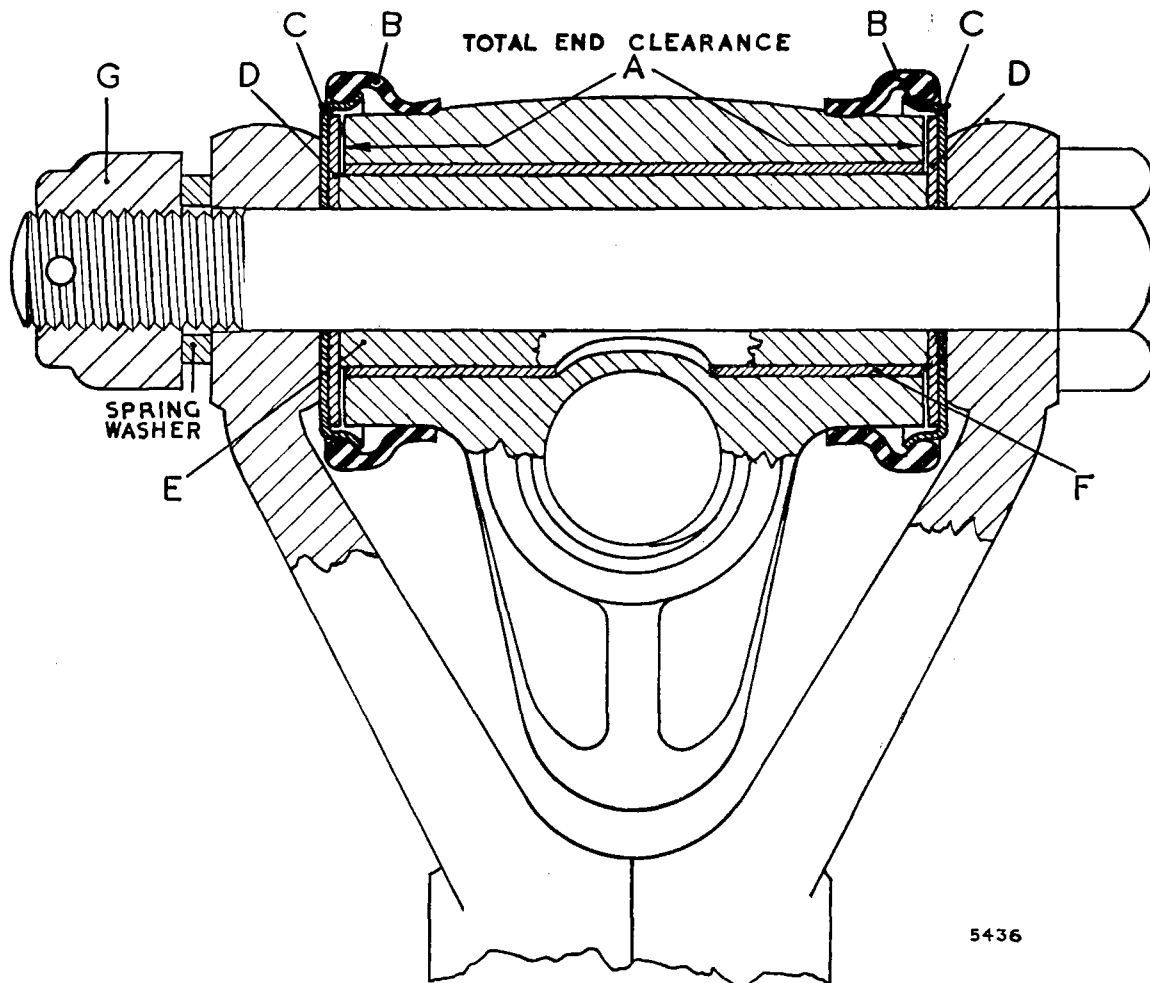

Fig. K.1
NOTE.—When pressing in this bush see that the hole in the bush faces the threaded bore. (See Fig. K.1.)
When the swivel links, distance tubes, and thrust washers are assembled the total end clearance between the link and the thrust washers should be .008 to .013 in. (.2 to .33 mm.) (see [A], Fig. K.1).
- (3) Before the lower steering knuckle link is bolted in position ensure that both thrust washers and rubber seals are fitted correctly (see Fig. K.1) and make sure that the links have a total end-clearance of .008 to .013 in. (.2 to .33 mm.) between the end faces of the link and the thrust washers.
Ensure that the thrust washers, rubber seals, and retainers are assembled in the right order (see Fig. K.1).